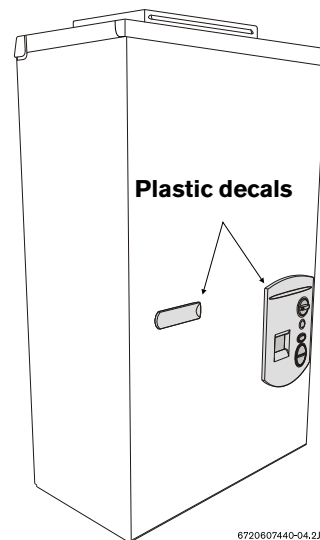

Fig. 6 Remove front cover
- Plastic decal shields for covering front cover screws and control panel, installer should affix these decals to the front of the unit after installation is complete. See Fig. 6.
- ▶ Loosen the two Philips head screws located on front panel (beneath plastic decal shields if they are already attached, see Fig. 6).